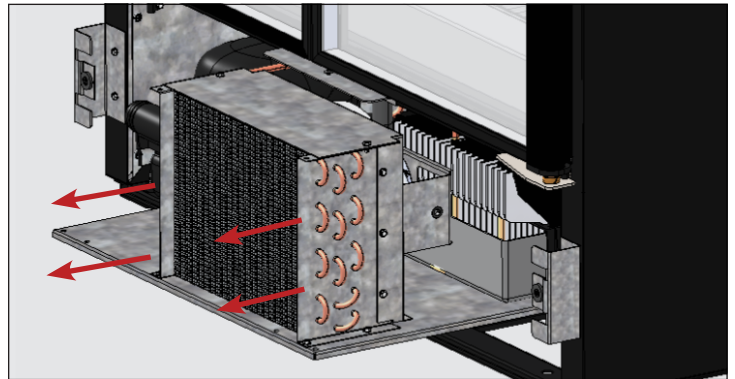

Fig. 6. Carefully slide the condensing unit out.
7. Carefully slide the condensing unit out (tubing connections are flexible). See fig. 6. Gently blow compressed air or CO₂ through the coil until it is clean.